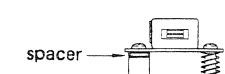

Fig. 5-11
3. Set the head check jig B as shown in Fig. 5-11 so that the head check jig B can just pass through smoothly between the tape guides.